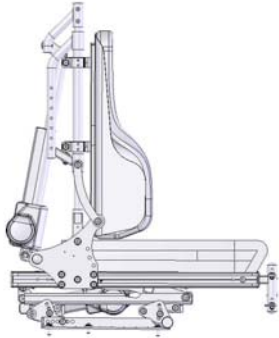

Figure 5-74
5.3.5.5 The KISS seat is shown as Figure 5-74